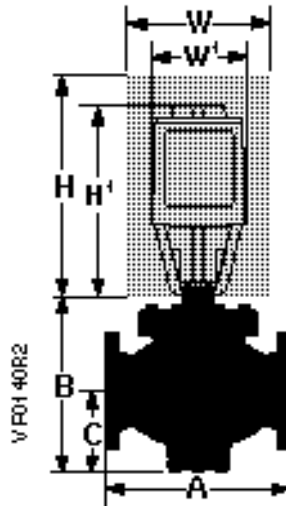

Figure 7. Dimensions.
- Allow sufficient space for servicing the valve and actuator. See Table 14 for valve body dimensions. See Figure 7 and Table 13 for dimensions of the service envelope recommended around the actuator.